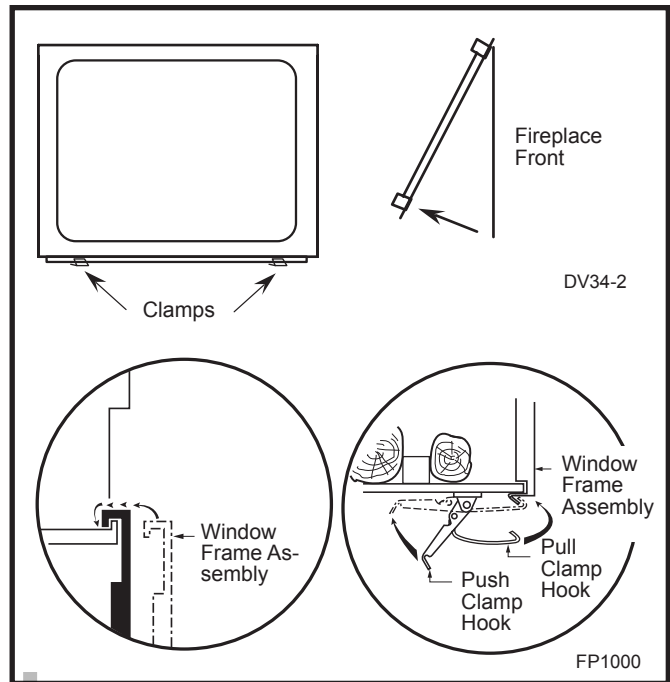

Fig. 13 Window Frame installation and removal.
6. Lift off the window frame assembly as shown in Figure 13.
7. To reinstall window frame assembly follow the above procedure in reverse. (Fig. 13)